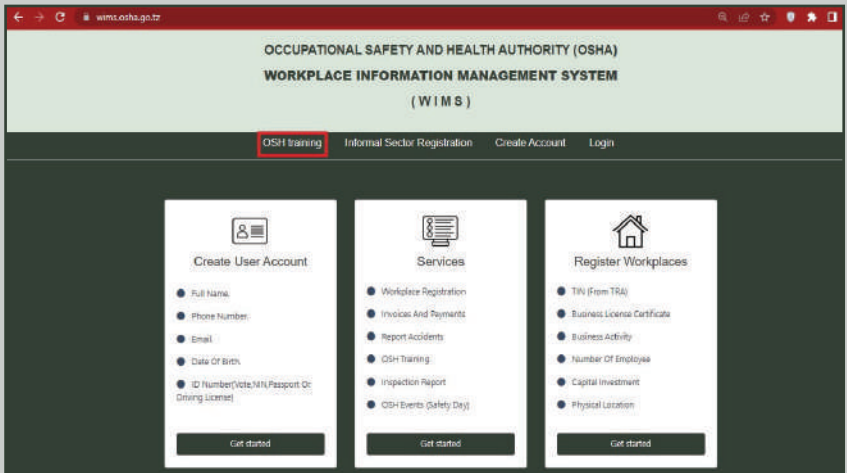

Figure 34: Accessing individual training booking page
- i) Access landing page then click on OSH training link to view scheduled trainings as illustrated on Figure 34.